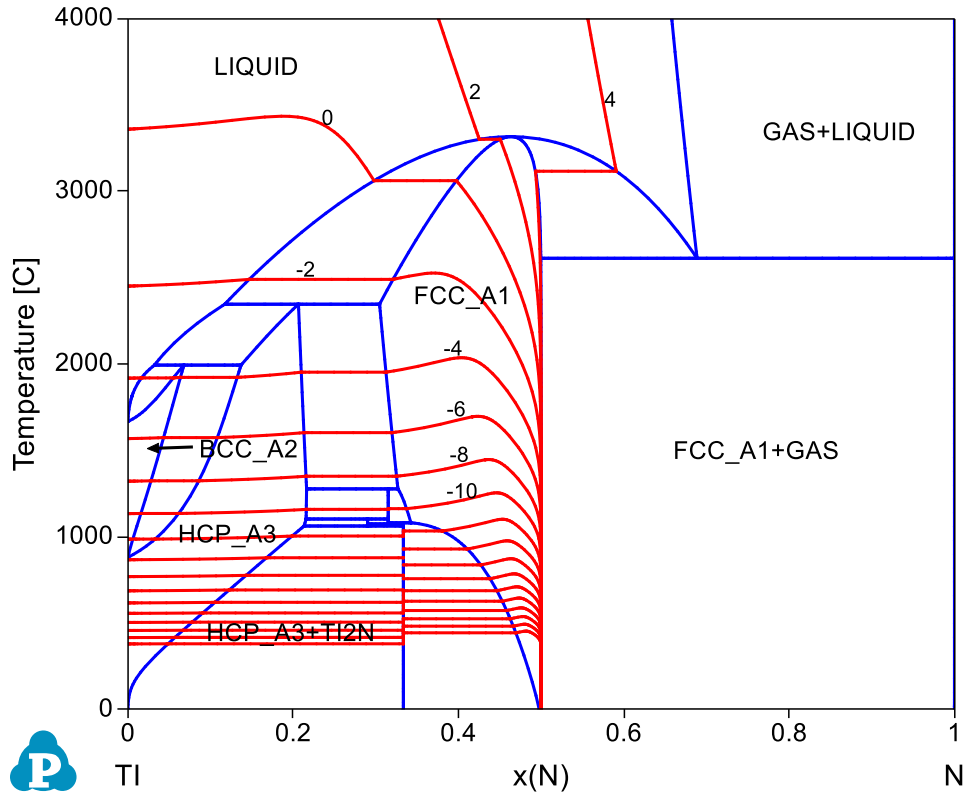

Figure 1.16.3: Calculated contour diagram of total pressure in the Ti-N system
- Figure 1.16.3 shows the contour diagram of total pressure in Ti-N system;